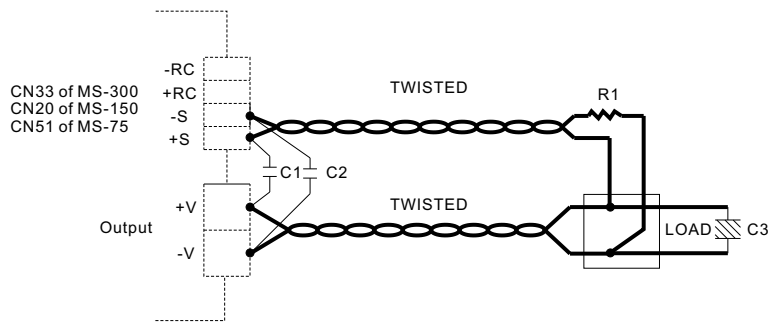

Figure 3-1 Connection for using the remote sense function
- ⊙When using this function, the sensing wires should either be twisted or shielded to prevent external noise interference. (refer to figure 3-1)
- ⊙If long sensing wires are necessary, then Noise Filtering Capacitors C1,C2 and C3 need to be added as figure 3-1.
- ⊙The power supply unit may become unstable due to the difference in wire impedance and load current. The addition of C1, C2, C3 and R1 shown in figure 3-1 may help improve output voltage stability. Please contact MEAN WELL for more detail specification of these components.